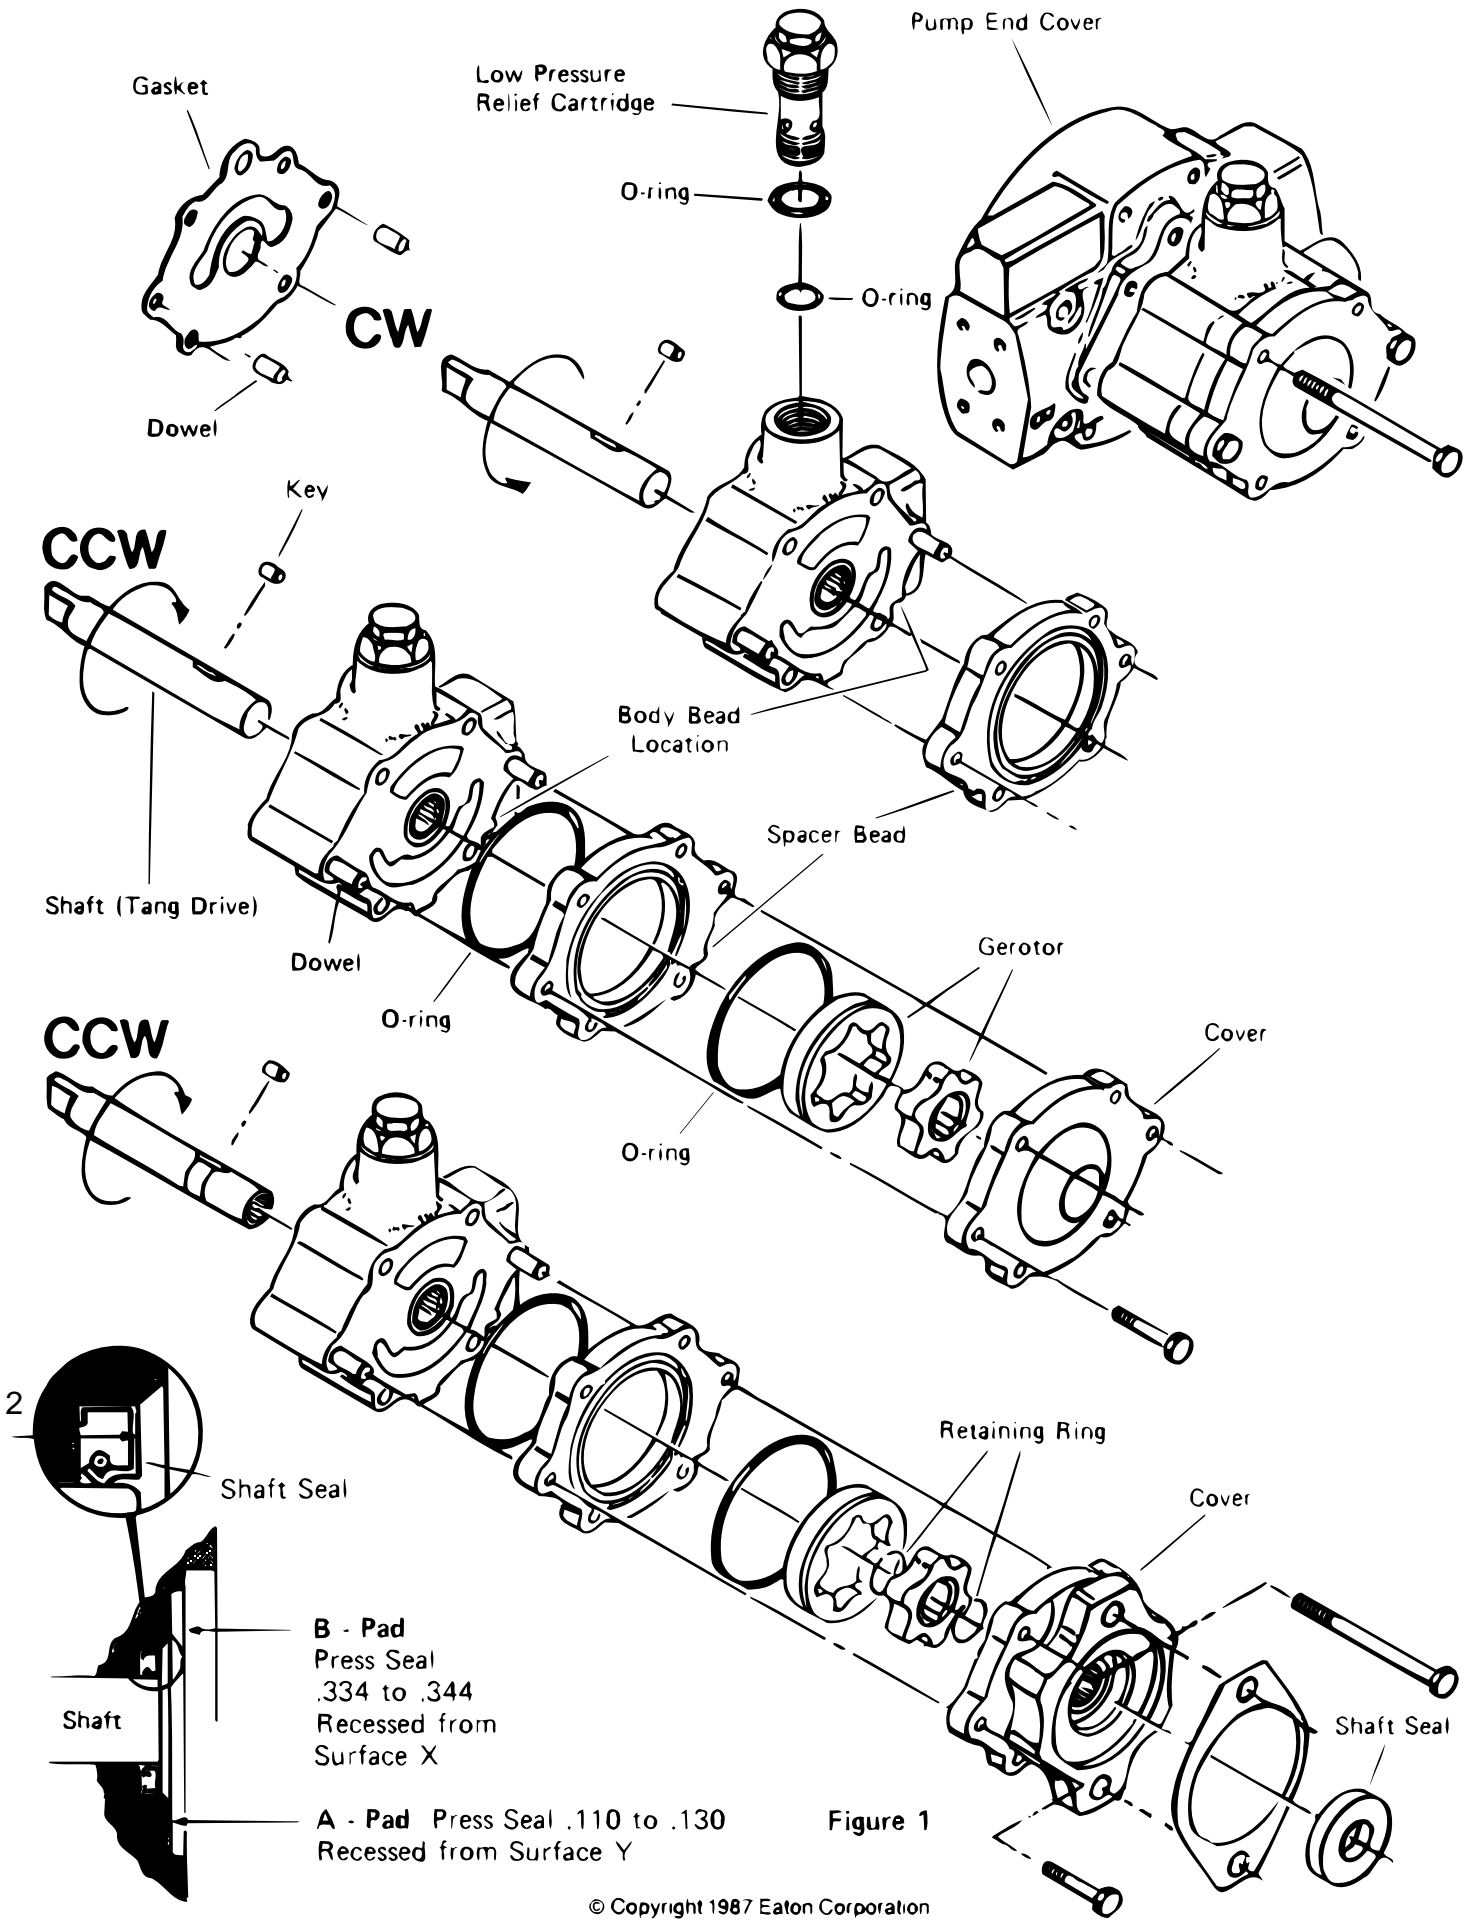

Figure 1
- 3 Install the spacer per the desired rotation. Refer to figure 1. For counterclockwise (CCW) rotation, align the beads on the spacer and body. For clockwise (CW) rotation, do not align the beads on the spacer and body.